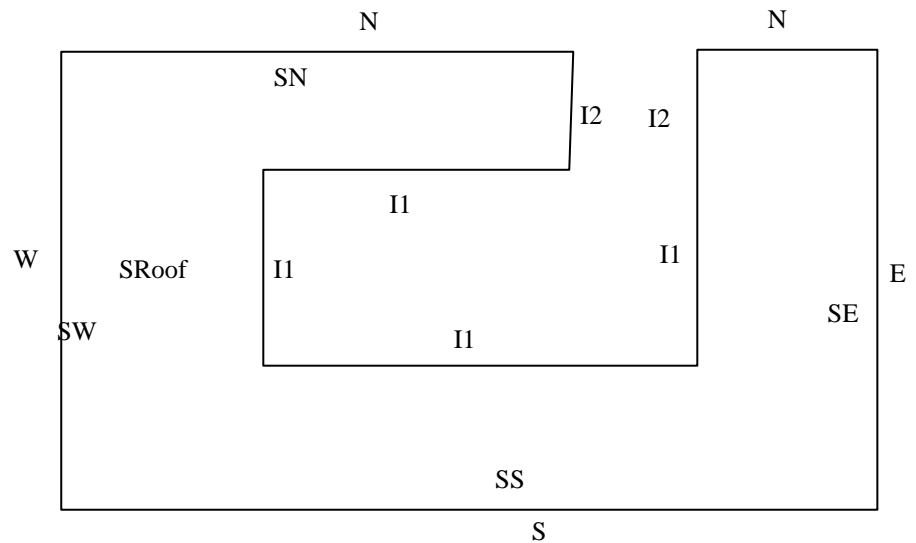

Figure 8: Complex wind scenario
Figure 8 shows an example for a more complex wind scenario: The building has 6 façade orientations: North (N), East (E), South (S), West (W), Interior 1 (I1) and Interior 2 (I2). Interior 1 will have a lower effective wind speed, but Interior 2 has a higher effective wind speed, because of the nozzle effect. There are 5 Sensors in the example, North (SN), East (SE), South (SS), West (SW) and Roof (SRoof).